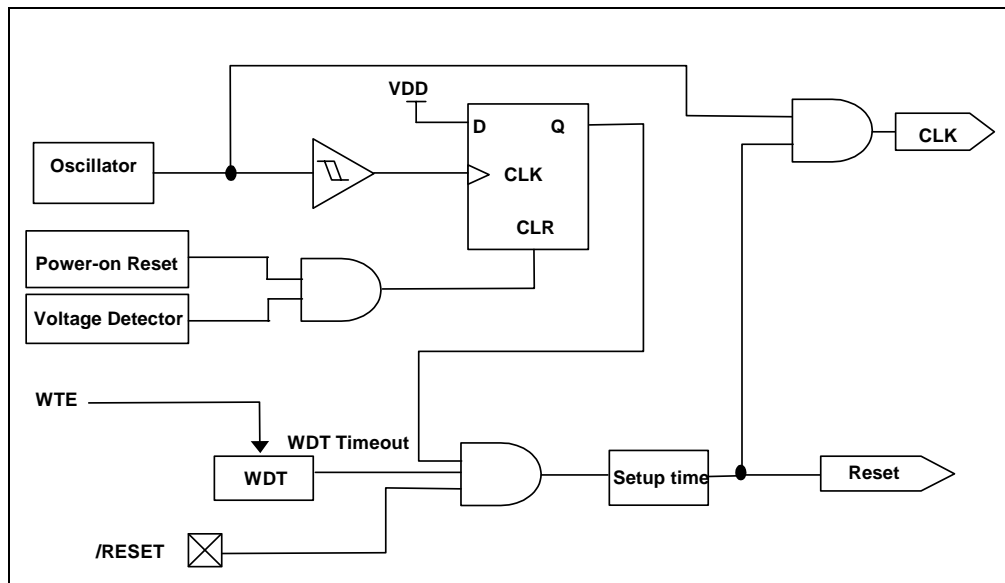

Figure 6-8 Controller Reset Block Diagram
When interrupt mask bits are "Enabled", the flag in the Interrupt Status Register (RF) is set regardless of the ENI execution. Note that the result of Bank 0-RE/RF will be the logic AND of Bank 0-RE/RF and Bank 1-RE/RF (refer to Figure 6-8). The RETI instruction ends the interrupt routine and enables the global interrupt (the ENI execution).